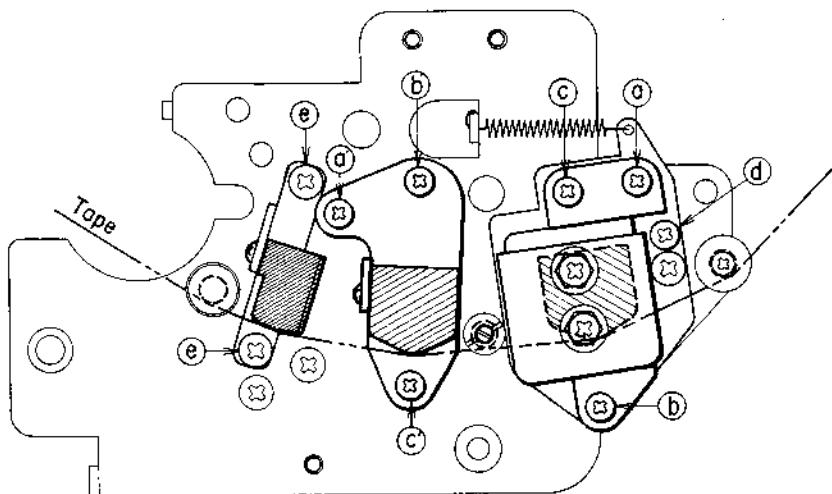

Fig. 6-1
- 1) During Normal Play, adjust screws (a') (b') (c) (Fig. 6-1) so that the upper edge of the upper core of the Playback and Recording Head is the same height as the upper edge of the tape.
During Reverse Play, adjust screw (d) (Fig. 6-1) so that the lower edge of the lower core is the same height as the lower edge of the tape.